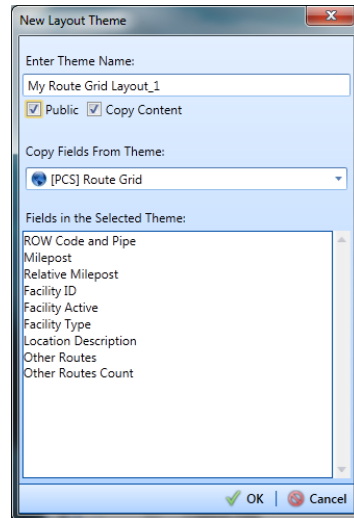

Figure 8-53. New Layout Theme
- 4 Click  **Add** to open the *New Layout Theme* dialog box (Figure 8-53).